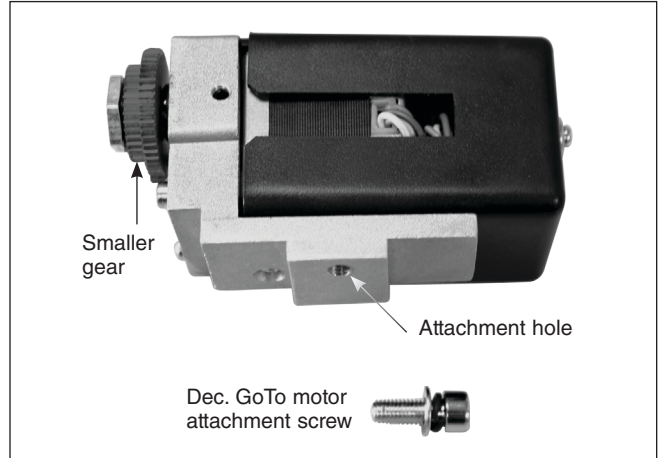
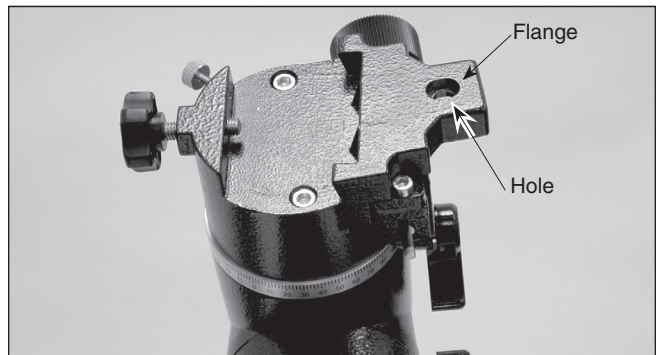
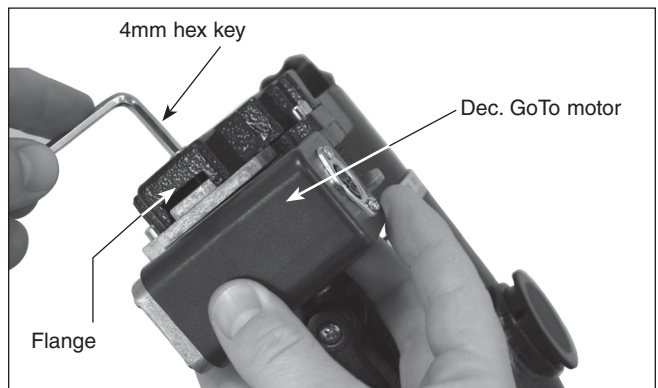

Figure 10. The Dec. GoTo motor assembly
Figure 11. The location of the flange on the mount
Figure 12. Attaching the Dec. GoTo motor
4. The Dec. GoTo motor assembly is identified by its black, rectangular body (**Figure 10**). It is attached to the equatorial mount using the Dec. GoTo motor attachment screw that goes through the hole in the flange at the top of the equatorial mount (**Figure 11**). The motor assembly should be attached so that it is oriented as shown in **Figure 12**. Hold the motor assembly so that its threaded hole lines up with the hole in the top of the mount. Place the lock washer and then a flat washer onto the Dec. GoTo motor attachment screw. Use the 4mm hex key to thread the attachment screw into the motor assembly attachment hole until it is secure, but do not overtighten.